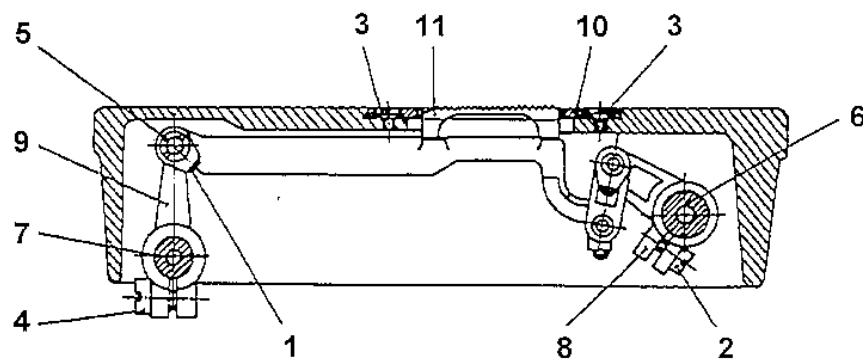

Fig. 8
4. To adjust the feed-dog height above the throat plate (Fig. 8)
6. To adjust the throat plate (Fig. 8)
11. To adjust the elliptical path of the feed-dog movement (Fig. 8)